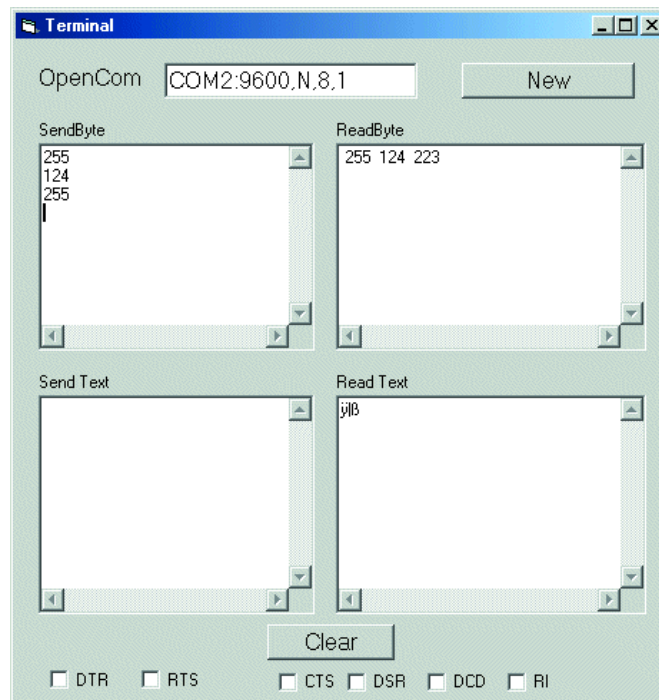

Figure 1. Port outputs and port polling.
This program can be tested using the program Terminal.exe, for example, which was already used in the December 2001 issue of *Elektor Electronics* in connection with an IR transceiver. The significant difference here is that what is being transferred is bytes rather than numerical values in text format. Figure 1 shows an example of how the port can be driven. The first two control bytes are returned unchanged, which means that the microcontroller reports that the sent port state was present at P1 with no changes. The third byte (255) sets all port pins High, which makes them usable as inputs. This time, however, the response from the microcontroller shows that one line is being pulled to ground externally. This program can thus be used in this manner to only poll all eight port lines.